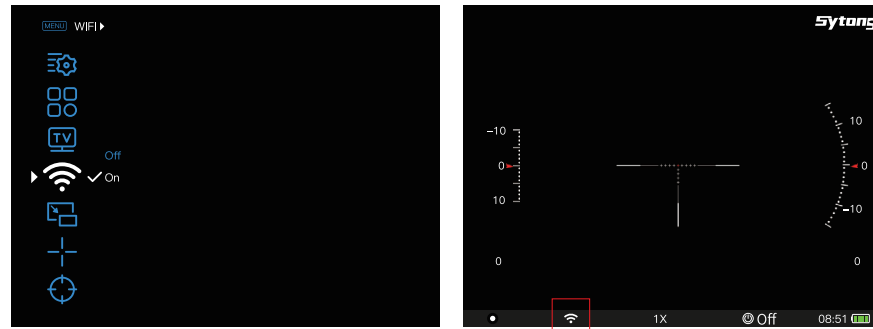

Figure 7 WiFi
1. Enable WiFi in the device menu, then open the WiFi on your phone and the SYTONG testing app. Locate the phone's WiFi MAC address named 'Sytong-LM-XXX' and enter the password '12345678' to connect the device. Refer to Figure 7.